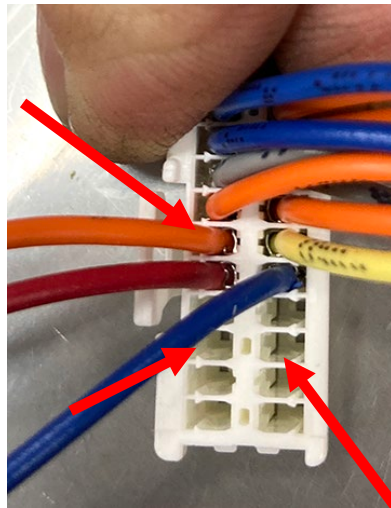

Figure 23
- gently tug on the wires, to disconnect the orange, red and blue wires as shown (see Figure 23).